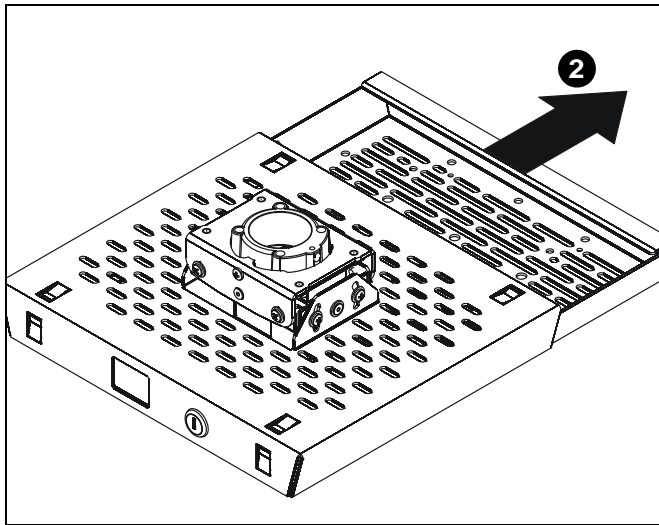

Figure 1
2. Remove drawer from MSP-CCS2 outer sleeve. (See Figure 1)